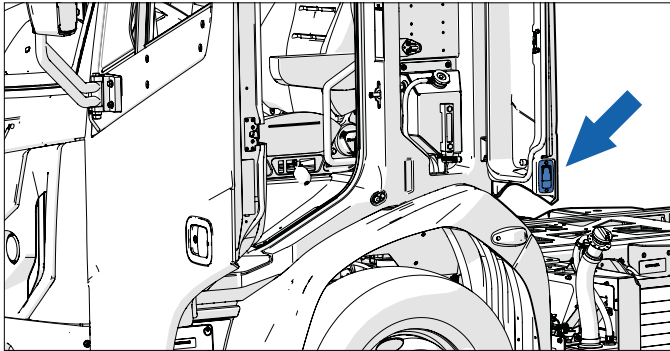

Figure 20 - Access panel handle
1. Open the driver's door and locate the black door handle at the bottom of the access panel (**Figure 20**).